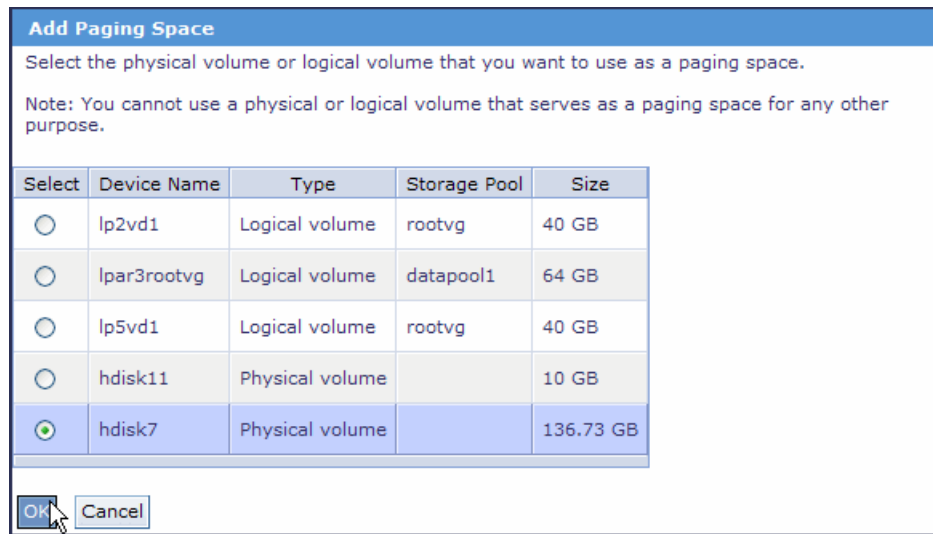

Figure 4-31 Paging space device selection
3. A new window with a list of paging device candidates opens under the Shared Memory Pool menu in the work area, as shown in Figure 4-31. Select the wanted device to add as a paging space device and click **OK**.